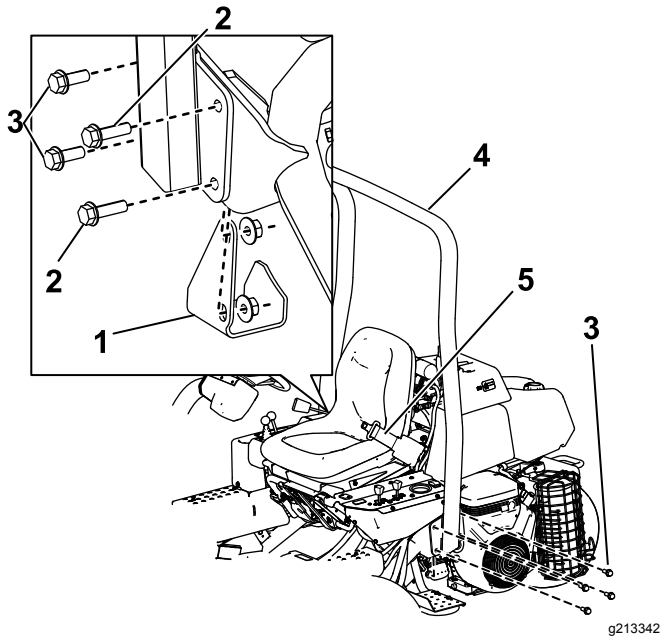

Figure 6
2. Lower the roll bar (Figure 6) onto the mounting brackets, aligning the mounting holes.
3. Secure the left side of the roll bar to the mounting bracket with 4 bolts (1/2 x 1-1/2 inches) and locknuts (Figure 6).
5. Secure the right side of the roll bar and the previously removed jack pad to the mounting bracket with 2 bolts (1/2 x 1-1/2 inches), 2 bolts (1/2 x 1-3/4 inches), and locknuts as illustrated in Figure 6.